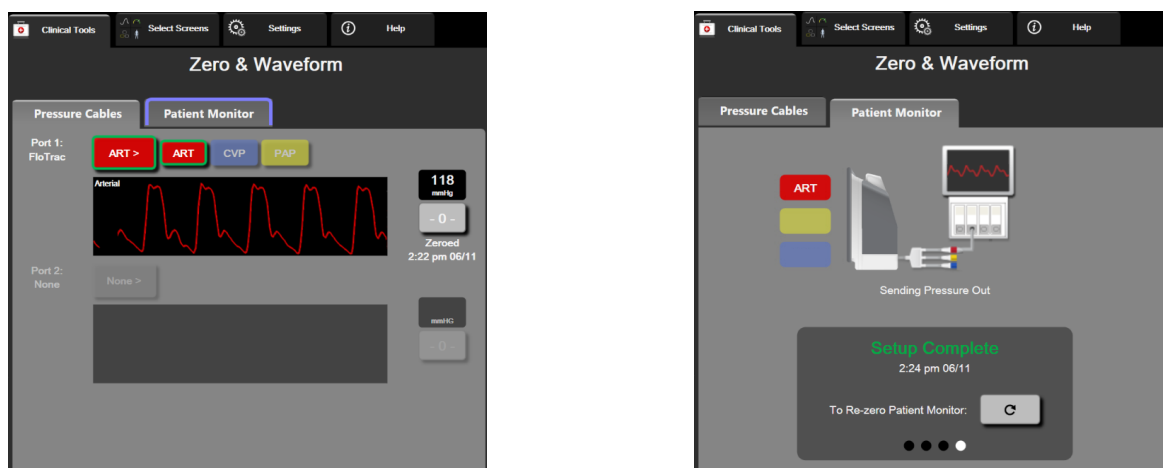

Figure 10-2 Zero & Waveform screens – Zero sensor and Pressure-Out
- 5 Touch the **Transmit Waveform** icon  to begin pressure signal output to the patient monitor. A “**Setup Complete**” message will be displayed when the live waveform is being transmitted to the connected patient monitor. See right screen shown in figure 10-2 on page 176.